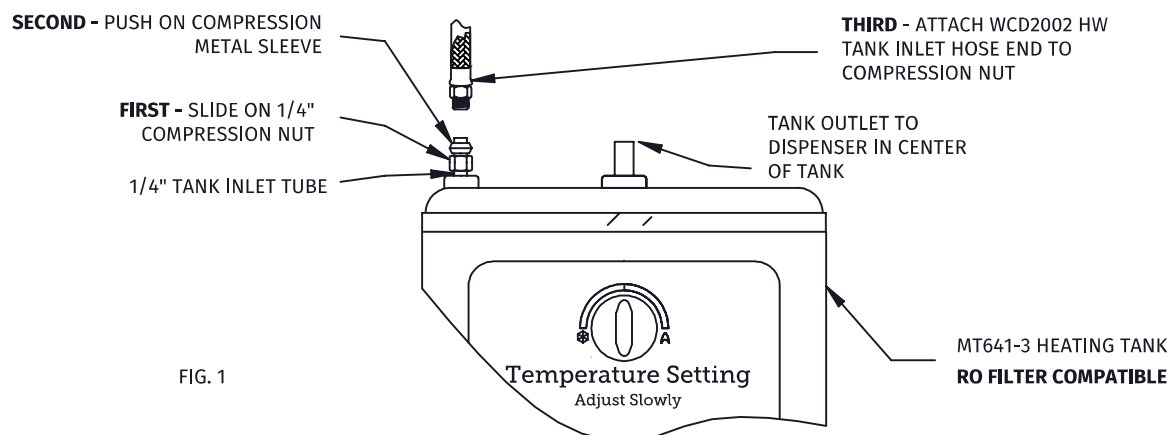

FIG. 1
7. CONNECT THE WCD2002 $\frac{1}{4}$ " COMPRESSION HOSE TO THE TANK INLET LOCATED IN THE RIGHT HAND BACK CORNER ON THE TOP OF THE TANK. SEE FIG 1.